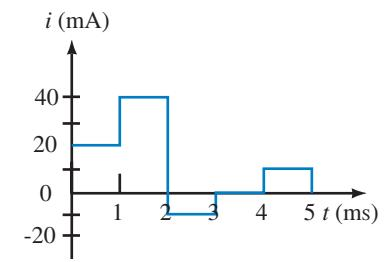

FIGURE 10-43
44. The current through a 1-μF capacitor is shown in Figure 10-43. Sketch voltage v_C scaled with numerical values. Voltage at $t = 0 \text{ s}$ is 0 V.